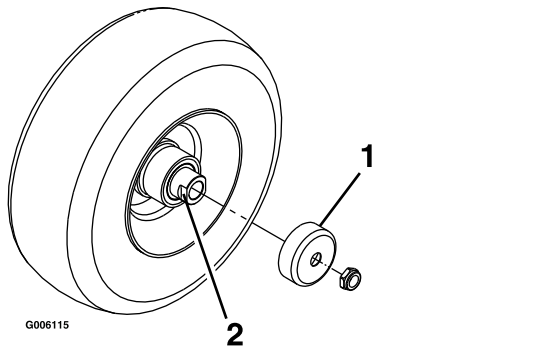

**Figure 41**
10. Install the hex plug and dust cap (Figure 41).